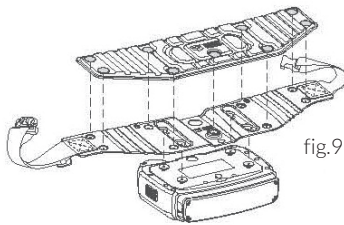

fig.9
4. Attach the soft pad onto the belt using the 8 snap buttons (See fig.9).